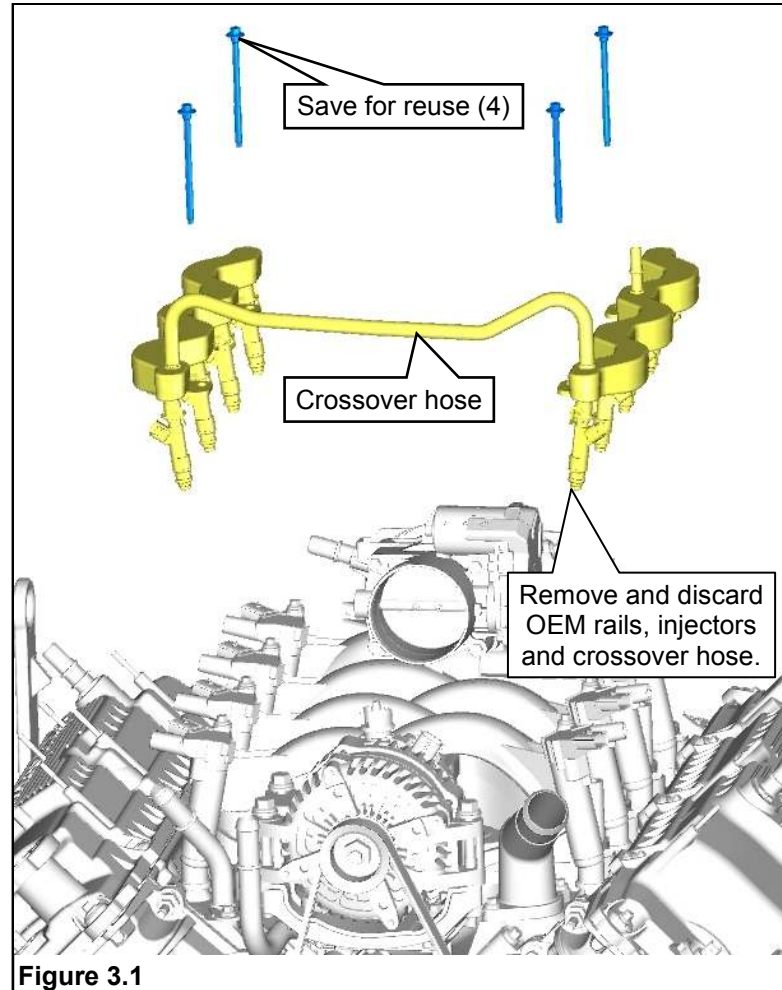

Figure 3.1
2. Remove the four mounting bolts, the two fuel rails and eight fuel injectors as an assembly from the engine. Save the four fuel rail mounting bolts for reuse. **Figure 3.1.**